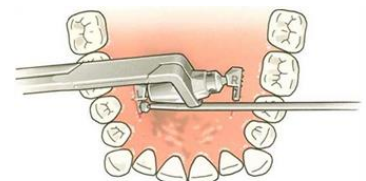
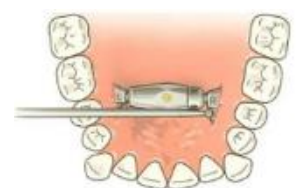

Fig 3
Fig 4
The abutment plates (Ref 03-800A) are placed subperiosteally, on the bone surface (Fig 3). Care should be taken to place the boxlike extensions 30° on the base plate, in a horizontal fashion and opposite to each other. The abutment plates are marked left (L) and right (R). The plates are fixed with 7 mm monocortical self-drilling screws of 2,0 mm diameter (Ref 70-707S) (Fig 4).
The abutment plate of the TPD Neo device, marked with the character "L" (left), is placed subperiosteally, on the bone surface on the left side of the patient (Fig 3). The abutment plate of the TPD Neo device, marked with the character "R" (right), is placed on the right side of the patient.
Insert the first 7 mm monocortical self drilling screw of 2.0 mm diameter (Ref 70-707S), only halfway depth with the internal screwdriver insert (Ref 99-909S) mounted in its handpiece (Ref 99-901A) (Fig 4).